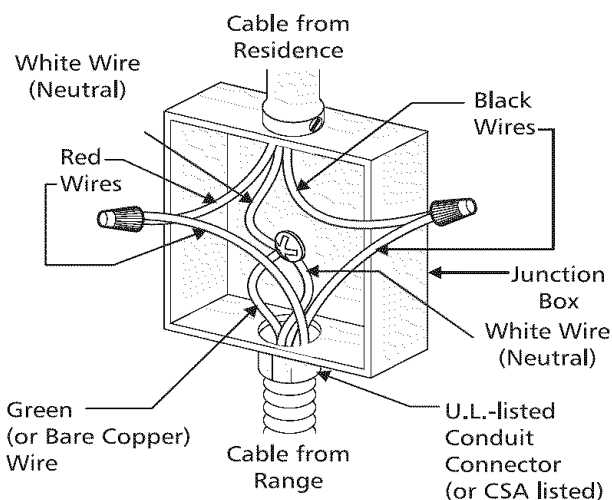

Figure 5
## Where local codes permit connecting the appliance-grounding conductor to the neutral (white) wire (see Figure 5):
2. In the circuit breaker, fuse box or junction box connect the appliance and residence cable wires as shown in Figure 5.